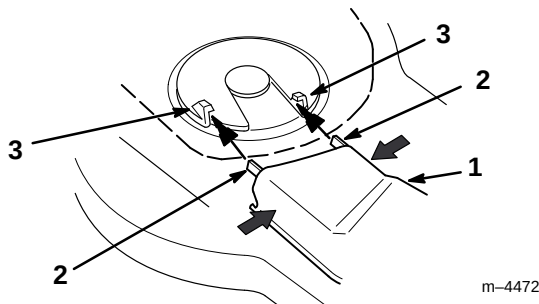

Figure 32
5. Replace the belt cover by squeezing the sides together and inserting the tabs on the belt cover into the brackets on the engine base (Fig. 32).